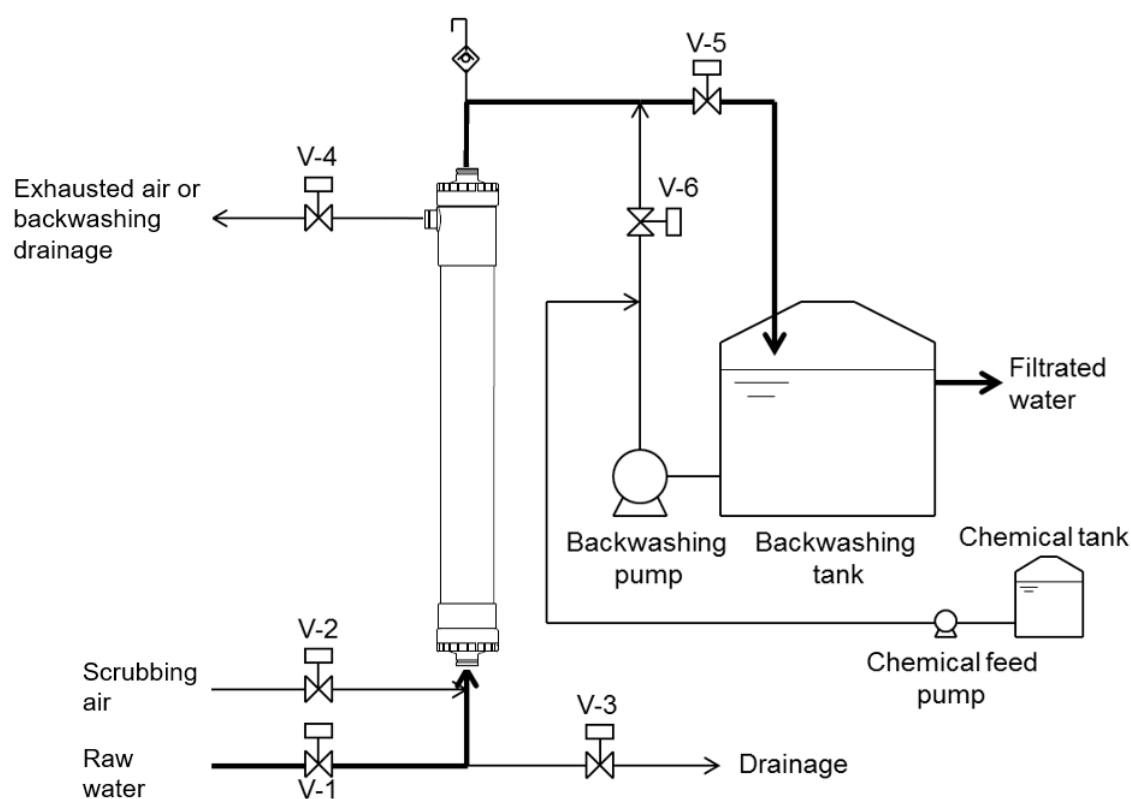

Fig. 4. Typical example of membrane pipe connection
5. Connect the piping to each connection point of the module with Housing type joints (HFUG-L1720AN) (see Fig. 4). The maximum fastening power of the Housing type joints should not exceed 40 Nm. When you tighten or loosen the Housing type joints, make certain to maintain sufficient space prior to the work and be careful not to injure one's fingers or other body parts.
- (1) Check that all piping is connected appropriately and flushed out prior to the operation. Fig. 4 shows a typical example of membrane pipe connection.